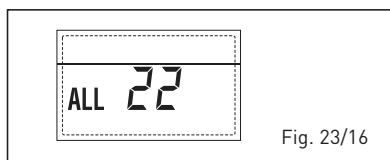

Fig. 23/16
– **ANOMALIE SONDE REFOULEMENT DEUXIEME ZONE MIXTE “ALL 23”** (fig. 23/17)